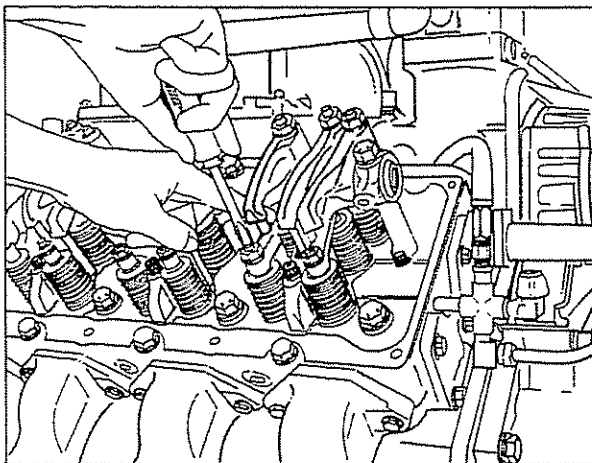

Fig. 2-33, (OM1039L). Adjusting crossheads
3. Turn down the crosshead adjusting screw until it touches the valve stem. Fig. 2-33.